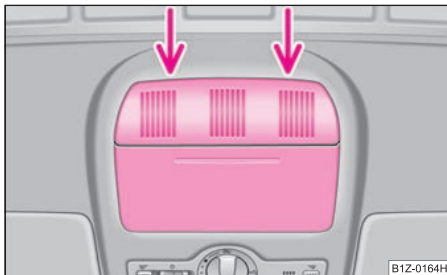

Fig. 43 Detail of the headliner: point for positioning screwdriver
- Pull the cover down ⇒ fig. 43.